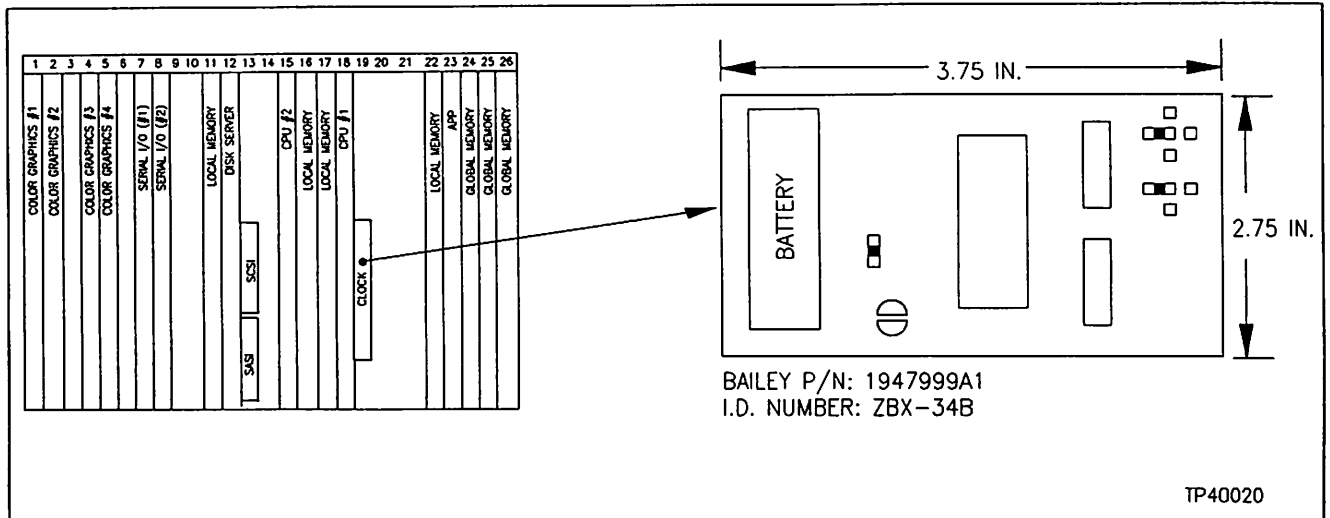

Figure 3-10. Clock Calendar Card
The Clock Calendar Card gives the MCS real time capability. This card has an on-board battery if a power backup is ever needed. The Clock Calendar Card, shown in Figure 3-10, resides on the CPU card and occupies physical space allotted to slot 19.
**NOTE:** If the MCS or replacement Clock/Calendar cards are stored for a duration of one week or more, remove the jumper located next to the battery (Figure 3-10). Failure to do so will result in excessive battery drain.